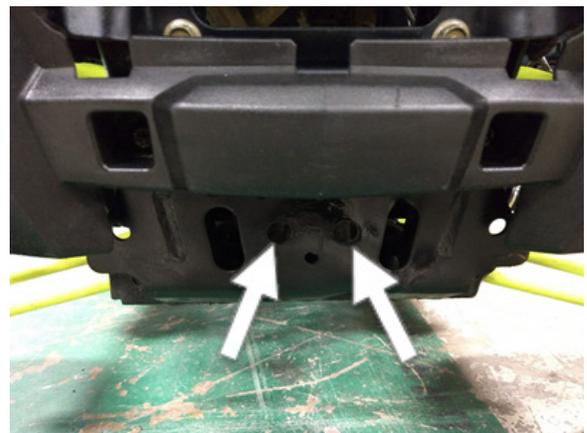

Figure 8
8. Using the two (2) provided 3/8" hex head bolts, flat washers, and lock washers (50212-HW) install the bumper (22073) to the two holes at the lowest portion of the frame. Thread the bolts in from the backside of the frame. (Figure 8)